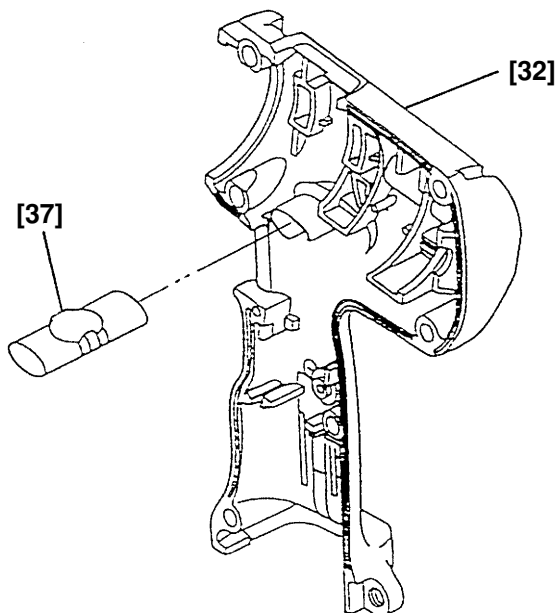

Fig. 14
- (5) Installation of the assembly reassembled in step (3) into Housing (A). (B) Set **[32]**
- (a) Install the Pushing Button **[37]** into Housing (B). (See Fig. 14.)